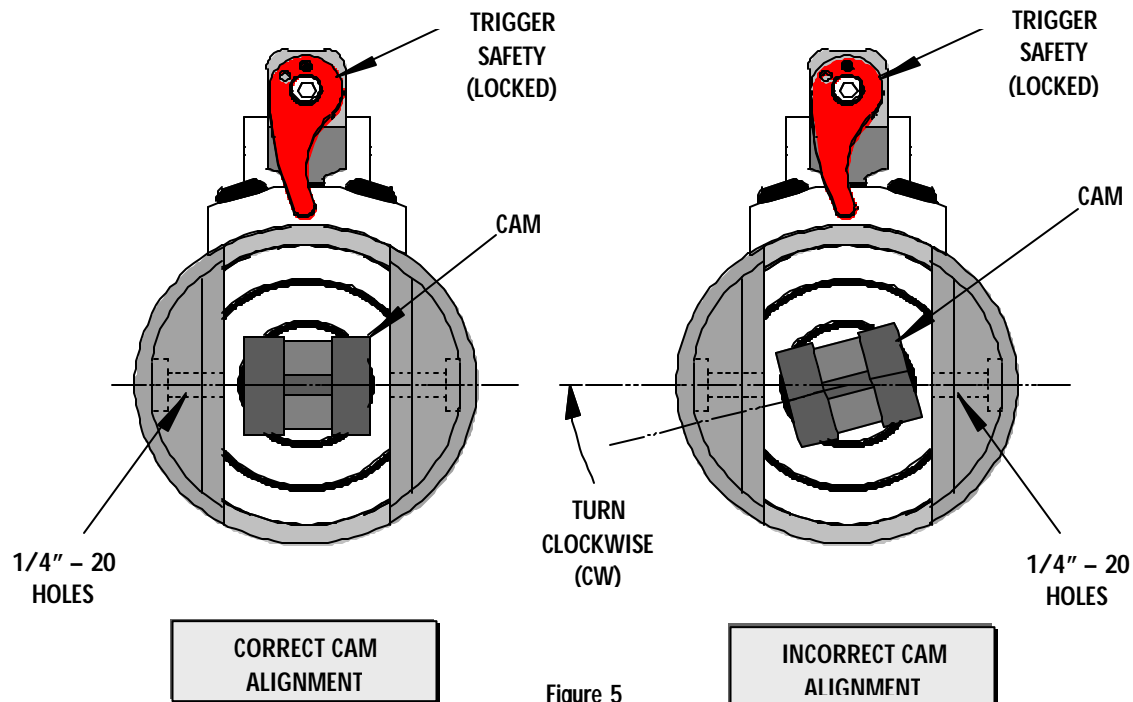

Figure 5
3. Before attempting to replace dies, check to see that wedge point of cam lines up with the two 1/4" holes in front of power unit (See Figure 5).
- b) Grasp center section of cam with long nose pliers and rotate cam clockwise (CW) until center line of wedge lines up with 1 / 4" holes in power unit. See Figure 5 for correct alignment.